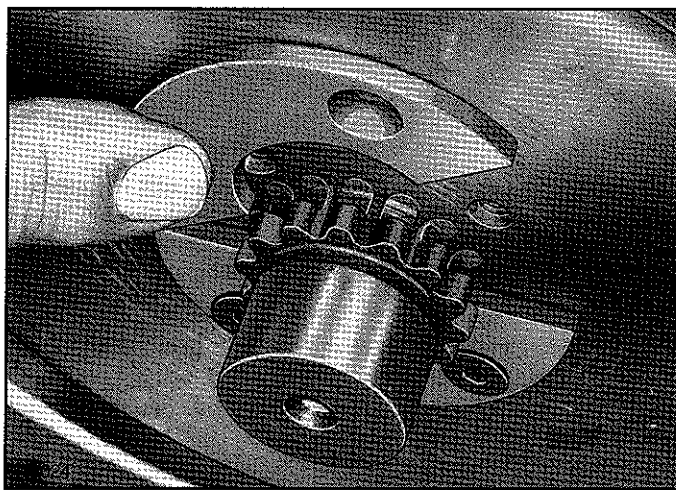

Figure 8-7. Removing Retainer Plates on Load Brake Shaft.
- (2) Remove both spiders from the gear case by removing the hex head bolts and lockwashers holding the spiders to the gear case. The large spider has 2 5/8-11 tapped holes so that lifting eyes may be used. When the small spider is removed the motor pinion shaft with bearings may come out also.
- (3) The large gear on the drum pinion shaft must now be removed. Two 1-1/2" holes in this gear will facilitate lifting. The shaft with drum pinion may also be removed.
- (4) The load brake shaft and assembly may now be taken out. Four 1" holes in the load brake gear may be used to assist in handling.
- (5) To further disassemble the load brake, remove 3 hex socket head cap screws from each of two retaining plates and remove plates from the groove on the spline of the load brake shaft (see Figure 8-7).
- (6) Pull off brake helix, then load brake gear.
- (7) Remove friction washer, then the roller-ratchet assembly followed by another friction washer.